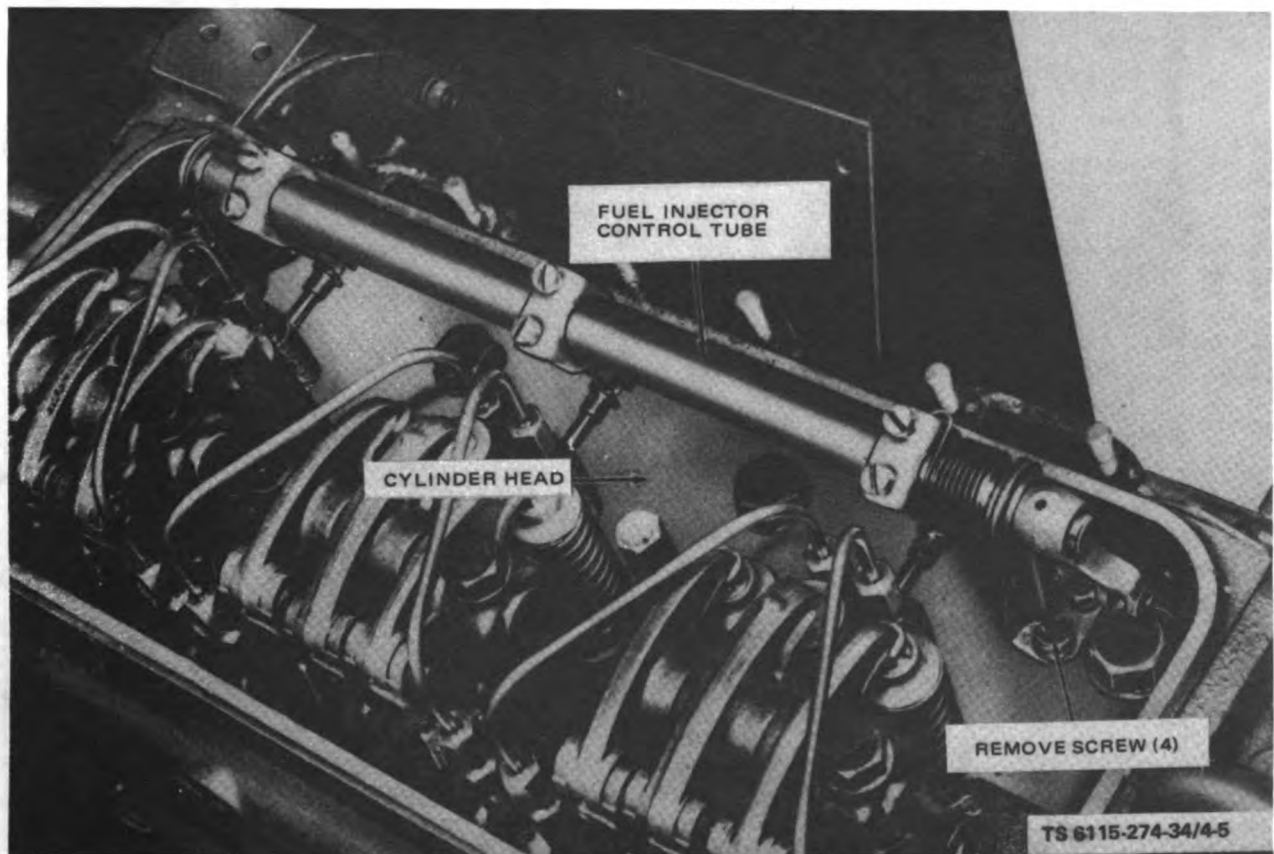

Figure 4-5. Fuel Injector Control Tube, Removal and Installation
(1) Remove mounting hardware necessary to remove the engine hood and engine doors.
(2) Loosen thumbscrews and remove rocker arm cover.
(3) Remove pins and detach control tube arm from control rod.
(4) Remove four screws and remove fuel injector control tube (fig. 4-5).
(4) Install fuel injector control tube (fig. 4-5) and attach with four screws.
(5) Attach control tube lever to control rod with pins.